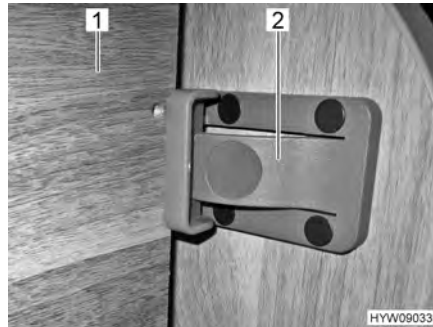

Fig. 52 Securing, front
- Lift bed (Fig. 52,1).
- Use the latch (Fig. 52,2) to secure the bed on the furniture wall.
- Press the latch (Fig. 52,2).